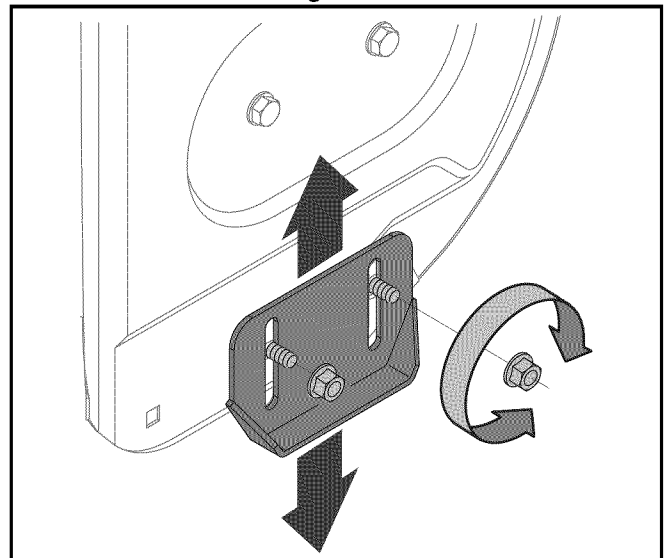

Figure 7
The space between the skid shoes and the ground can be adjusted. See Figure 7.
- To remove skid shoes, remove the four carriage bolts and hex flange nuts which secure them to the snow thrower. Reassemble new skid shoes with the four carriage bolts (two on each side) and hex flange nuts. Refer to Figure 7.